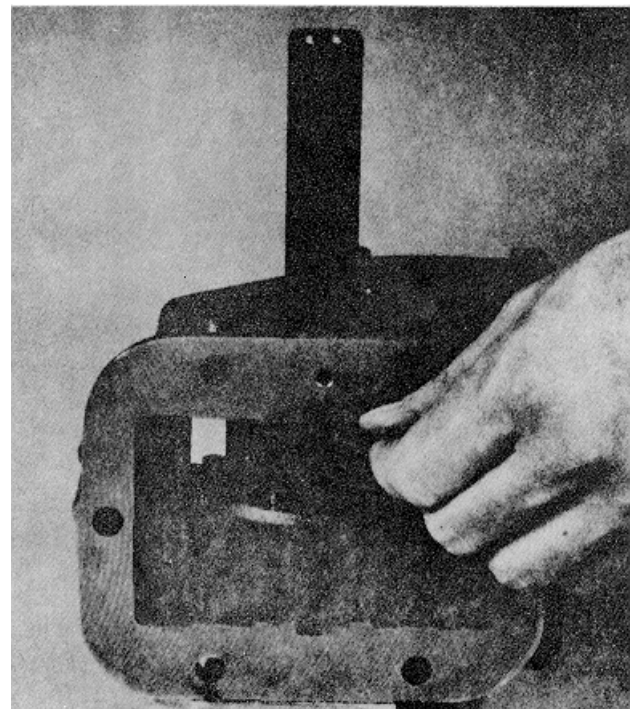

Figure 11B-28. Installing Thrust Washer
13. Insert proper set screw (18) in base of housing, Figure 11B-30.